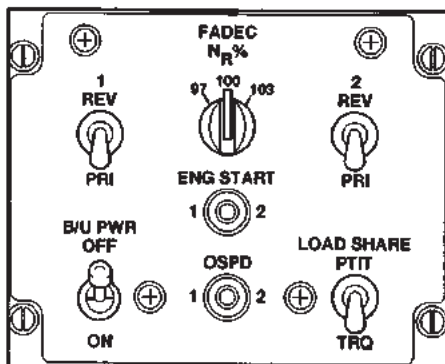

Figure 2-3-6. FADEC Panel 714A
t. FADEC control panel (fig. 2-3-6).
(1) On **714A** engine installations, engine beep switches are only active when in reversionary mode.
(2) Each switch is labeled NO. 1 or NO. 2 which is used to adjust RRPM when in reversionary mode.
(3) Operation of the beep switches on the **714A** in the reversionary mode are the same as for the **712** except that each switch operates respective engine independently. If only one engine is in reversionary mode, the RRPM will not change, as it is governed by the engine in primary mode.
The FADEC panel is located on the overhead switch panel (fig. 2-3-6). It comprises of the following: